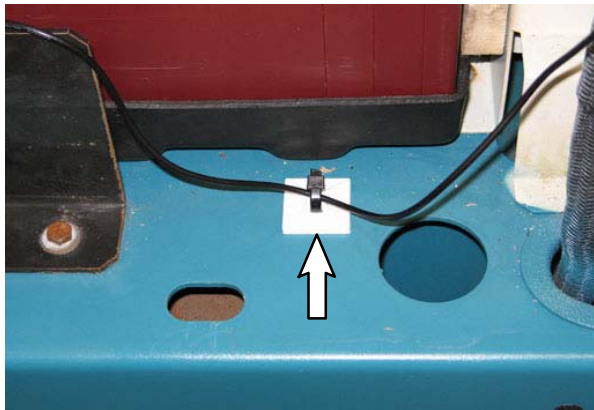

FIG. 18
25. Use a cable tie mount (17) and cable tie (18) to secure the antenna (6) wire to the frame of the machine. (Fig. 18)
26. Install the label (14) onto the seat support panel. (Fig. 18)
27. Install molding (16) inside battery compartment and insert the antenna (6) wire into the molding.
29. Reinstall the fuse into the telemetry harness (2).